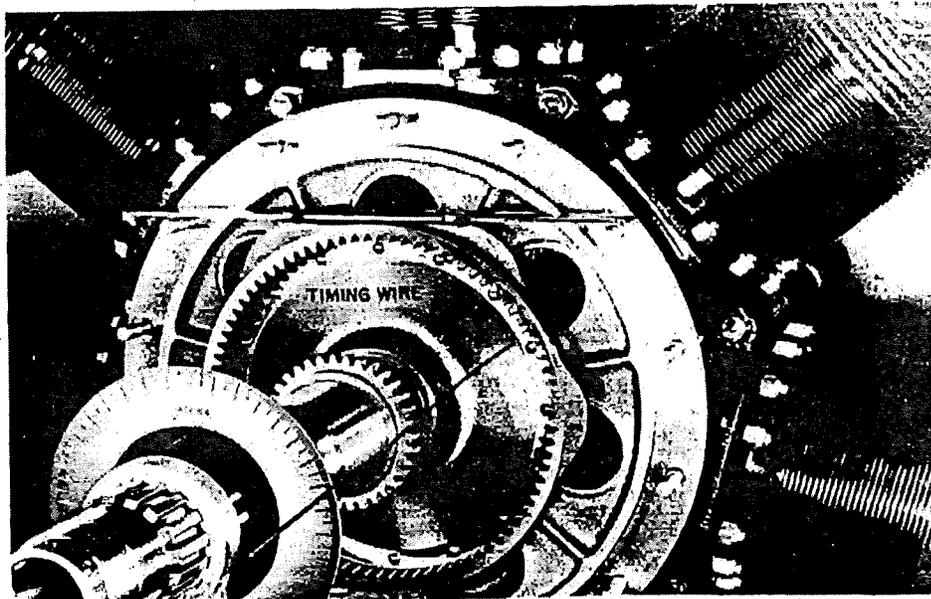

Figure 40 - Leveling Cam Lobes
d. Rest a 12" steel straight edge over the two top cam lobes and turn cam until there is an equal distance between straight edge and the studs directly above. Refer to Figure 40.